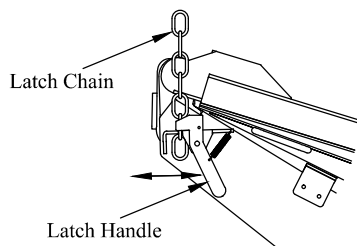

Figure 17: Platform latch chain.
8. **Verify** proper latch chain operation (Figure 17).